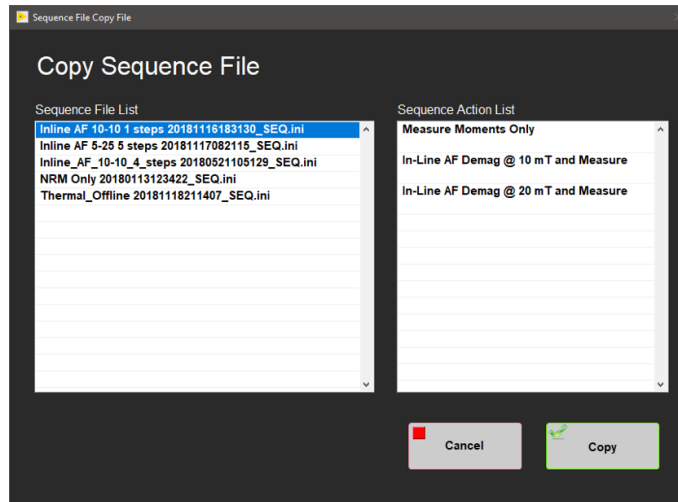

Figure 15- Copy Sequence File Window
- A new window with a list of existing sequences will be displayed (**Figure 15**).